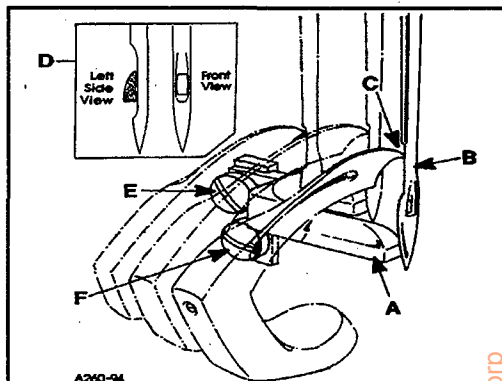
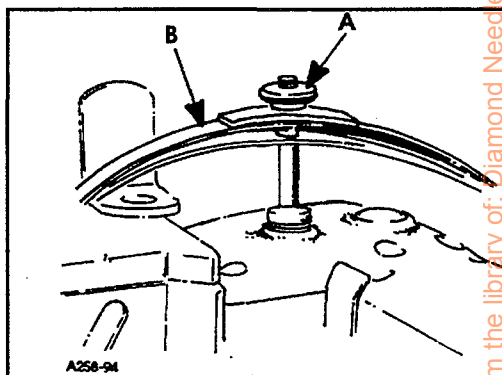
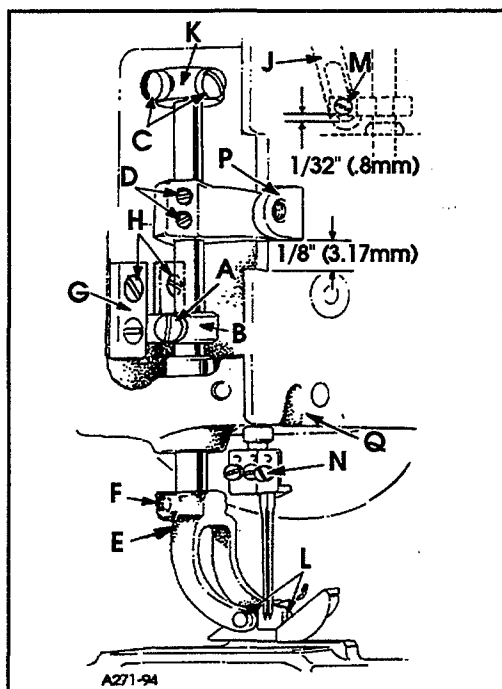

FIG. 13
FIG. 14
FIG. 15
Set the rear needle guard (A, Fig. 13) horizontally so that it barely contacts needles (B) when at its extreme forward position. If adjustment is necessary loosen screw (E) and move guard front to back as required. It should be set vertically as low as possible, yet have its guarding surface in contact with the needles until the points of the loopers (C), moving to the right, are even with the right side of the needles. If adjustment is necessary loosen screw (F) and move guard and holder up or down as required.
NOTE: When installing needle it should be parallel with the eye in line of feed. If adjustment is necessary, loosen screw (N, Fig. 15) in needle head and rotate needle to attain adjustment (D, Fig. 13).
Remove presser bar leaf spring (B, Fig. 14) and nut (A). Loosen screw (A, Fig. 15) on presser bar guide (B). Loosen screws (C) in upper collar and screws (D) in needle lever thread pull-off lever. Slide presser bar upward high enough to slip on presser foot yoke (E) with foot attached and tighten screw (F) on flat of presser bar. Position foot so that the needle holes in the foot line up with the holes in the throat plate. Tighten screw (A).
With foot properly aligned on throat plate and presser bar guide (B, Fig. 15) securely fastened to presser bar, adjust both guide plates (G) to attain above setting. Tighten four screws (H).
Reinstall presser bar leaf springs (B, Fig. 14) and nut (A), with presser foot resting on throat plate.
NOTE: There should be a minimum $1/32"$ (0.8mm) clearance between screw (M, Fig. 15) and the bottom of the slot in link (J).
Regulate the pressure on the presser foot same as the upper feed roller by turning the presser spring regulating nut (A, Fig. 14) located on top of leaf type spring (B) at the rear of machine.
To remove just the presser foot, remove screws (L, Fig. 15) and replace foot, retighten screws (L).